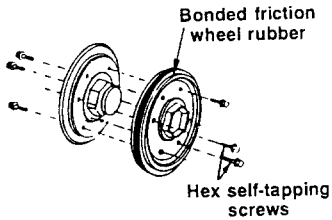

FIGURE 32
- Reassemble new bonded friction wheel rubber to the friction wheel assembly, tighten the six screws in rotation and with equal force. See figure 32.